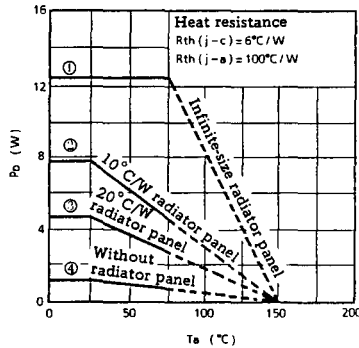

Fig. 5-2
However, for power integrated circuits that involve large variations in power consumption under external loading conditions, their maximum power consumption is specified by allowable power dissipation/ambient temperature characteristics as shown in Fig. 5-2. It is necessary to obtain power consumption under the worst conditions from this figure, and to design a heat radiator by calculating the max. ambient temperature.
The saturated thermal resistance of this IC can be obtained from Fig. 5-2 (1)